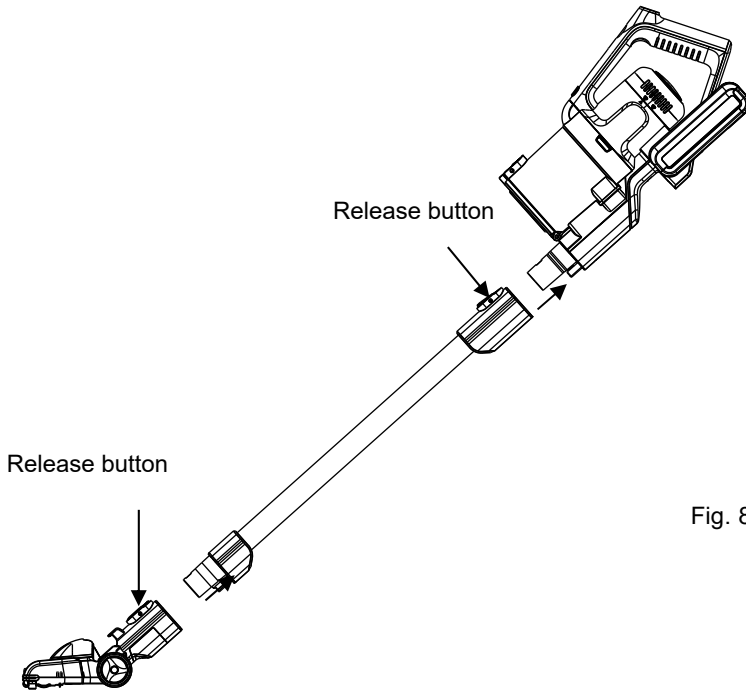

Fig. 8
1. Insert the extension tube onto the body of the vacuum as shown (fig. 8) and push to secure, a click will be heard.
2. Push fit the floor head onto the extension tube (fig. 8), a click will be heard. The crevice nozzle and combination nozzle can be fitted in place of the floor head.